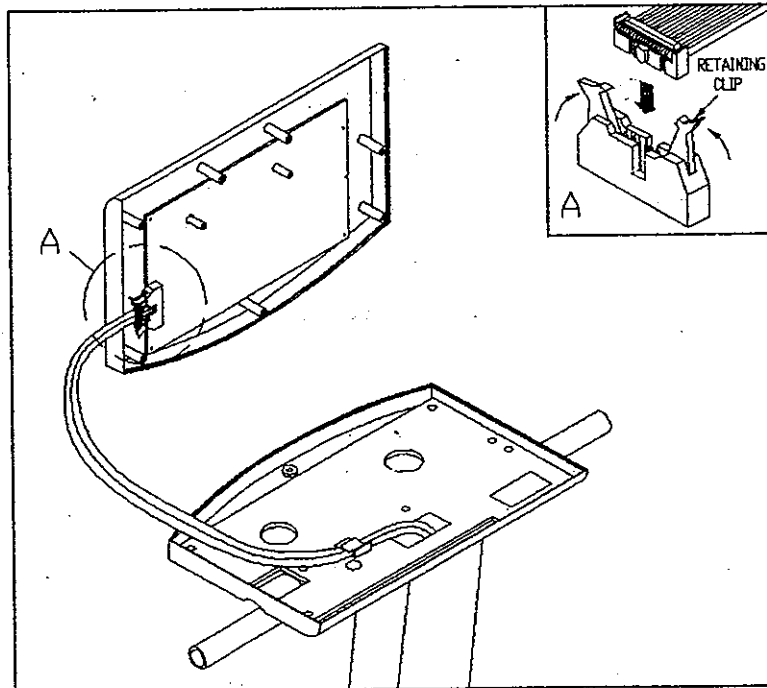

Fig. 10
4. Plug the cable connector into its socket on the electronics package (see Fig. 10).